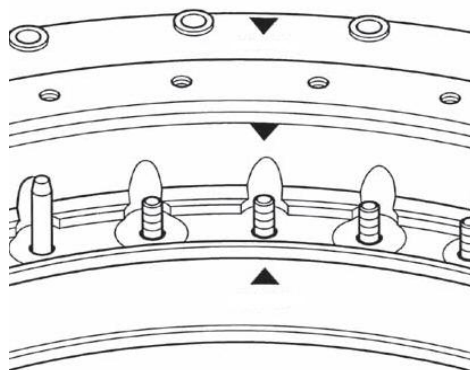

Figure 21
- (4) Carefully pull the diverter switch core vertically from the oil chamber (Fig 21).
The head flange is pre-installed on the mounting flange of the transformer cover (the gasket must be installed), this head part flange's red \triangle mark is aligned with support flange's \triangle mark, and the position of the tap changer and the mounting bracket is adjusted to make the intermediate flange. The two positioning pins of middle flange and all the screws pass through the coupling holes of the head flange (Fig. 21).